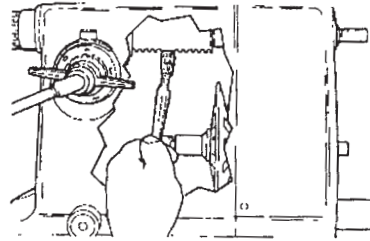

Figure SM-1
1. With a small, stiff brush, reach in through the nameplate opening and brush off the teeth on the portion of the quill inside the headstock, as demonstrated in Figure SM-1. Then extend the quill out from the headstock as far as it will go and brush off the outside teeth.